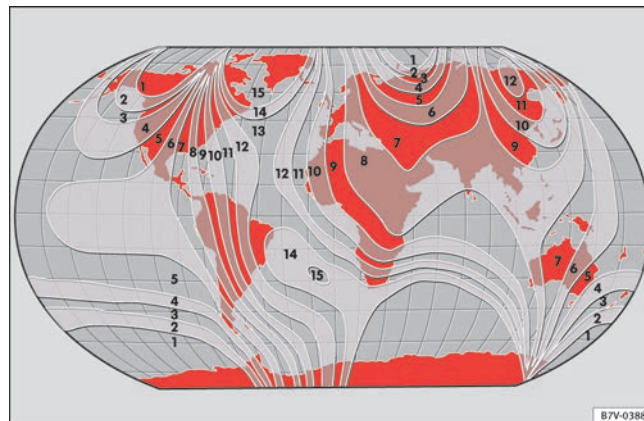

Fig. 36 Magnetic zones.
- Select the magnetic zone corresponding to the position of the vehicle → fig. 36.